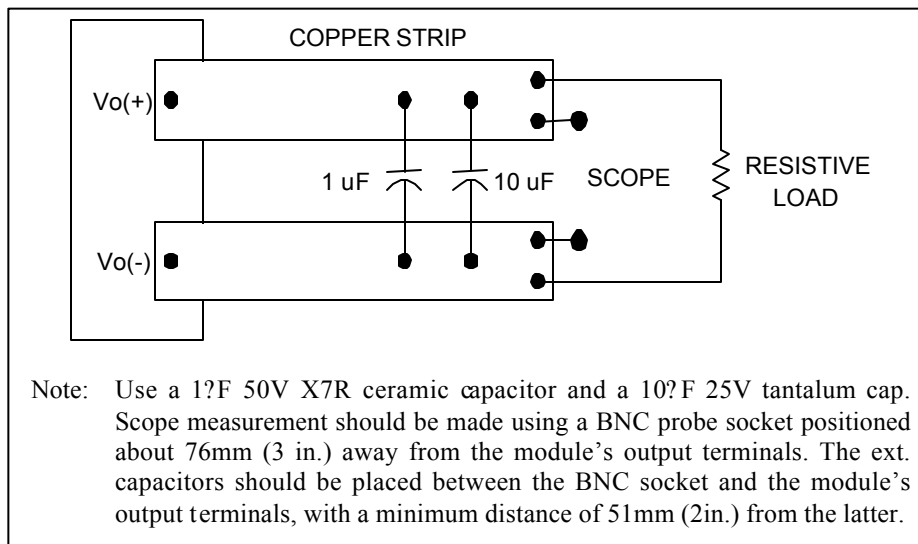

Figure 2. Peak to Peak Output Noise Measurement Setup.
6. Channel under test shall be set to full load with the other channel set to  $I_{O,min}$  - See Fig 2 for the recommended ripple and noise test setup.